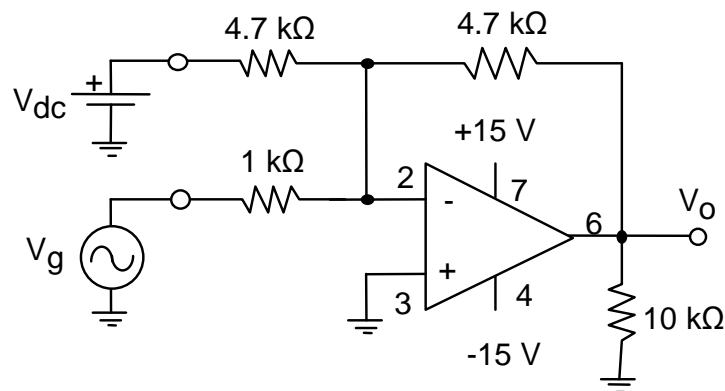

Fig 4: Op-amp summing circuit
(1) With the power off, modify your inverting amplifier circuit as shown in figure 4. Use the +18V output of the power supply for V_{dc} . Turn the +18V output all the way down, so that you can adjust up from zero. This circuit behaves like an inverting amplifier with two inputs. What is the ideal relationship between the output voltage and the inputs V_g and V_{dc} ?
(2) Apply a 1 Volt amplitude sinewave for V_g and 2 Volt DC source for V_{dc} . Observe and record the input/output waveforms on the oscilloscope screen. Pay close attention to the ground signal level of the output channel on the oscilloscope screen (note: make sure both channels are set for DC coupling). When used in this way, such a circuit could be called a *level shifter*.
(3) Pull out the DC offset knob of the function generator and adjust the DC offset until V_o has zero DC component. Confirm this either by measuring V_o with a DC voltmeter, or by verifying on the oscilloscope that V_o swings equally above and below ground. What must the DC offset of the function generator be? Can you confirm this with a measurement?
(4) Push the DC offset knob back in to reset the offset to zero. With channel 2 of the scope (the channel connected to the op-amp output) set for 5V/div, turn up V_{dc} slowly to +18V. What happens to V_o ? Record the DC voltage of the output.
(5) Return V_{dc} to approximately +2V. Set the scope to 1V/div, AC coupled, and adjusted so you can see the complete V_o waveform. Turn V_{dc} back up to 18V. What does the oscilloscope trace for V_o look like? Does the amplifier appear to be amplifying?